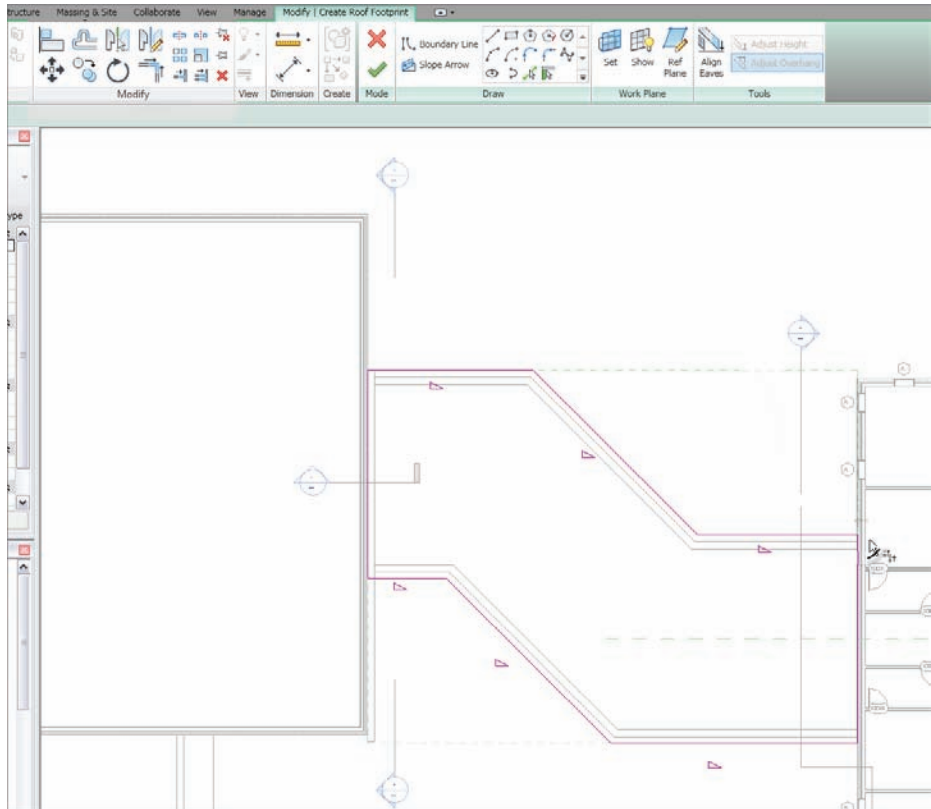

FIGURE 7.25 Using the Trim command in conjunction with the roof sketch
1. On the Modify | Create Roof Footprint tab, select the Trim/Extend Single Element command, as shown in Figure 7.25.
2. Trim the intersections that overlap. There are four of them (see Figure 7.25).